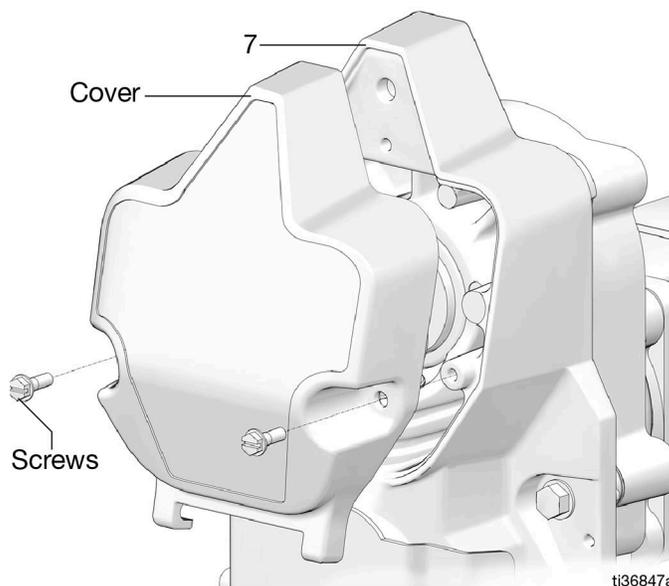

FIG. 11
11. Remove the screws and cover from the pump (7) (FIG. 11).